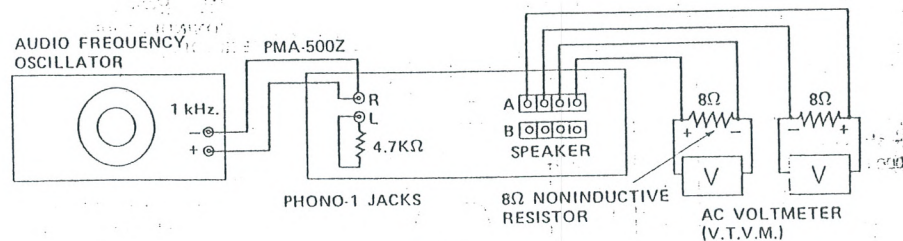

Fig. 24
- A. Set the MUTING switch at -10 dB position and MAIN VOLUME control at the maximum. Apply 1 KHz. input signal to PHONO-1(R) jack from the oscillator, set the right channel of the SPEAKER terminal at 25 watts (14.1 volts), and terminate the PHONO-1(L) with 4.7 Kohm resistor. (See Fig. 24)